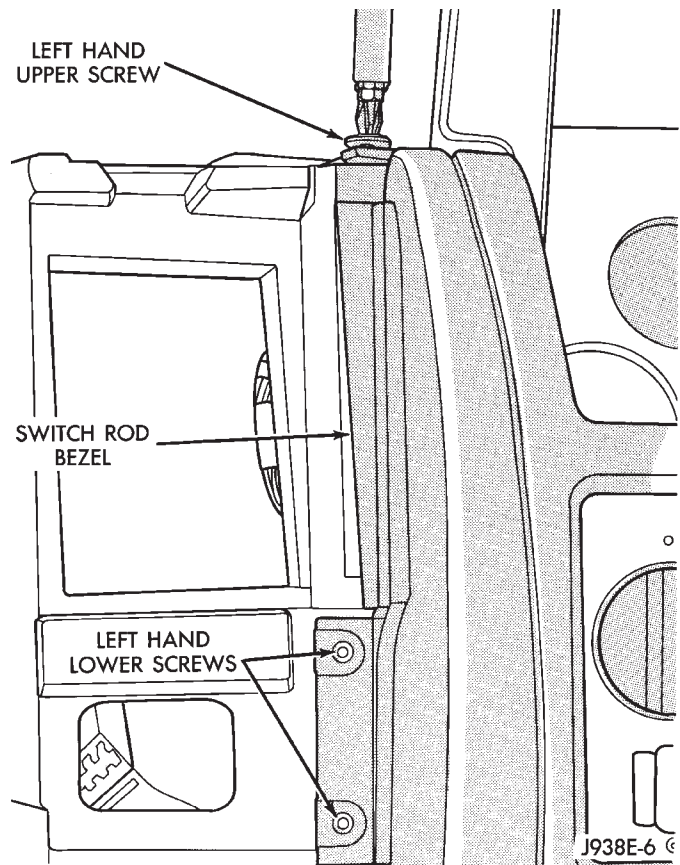

Fig. 8 Left Hand Switch Pod Bezel Screws
(19) Remove 2 screws holding left side of switch pod bezel (Fig. 8).